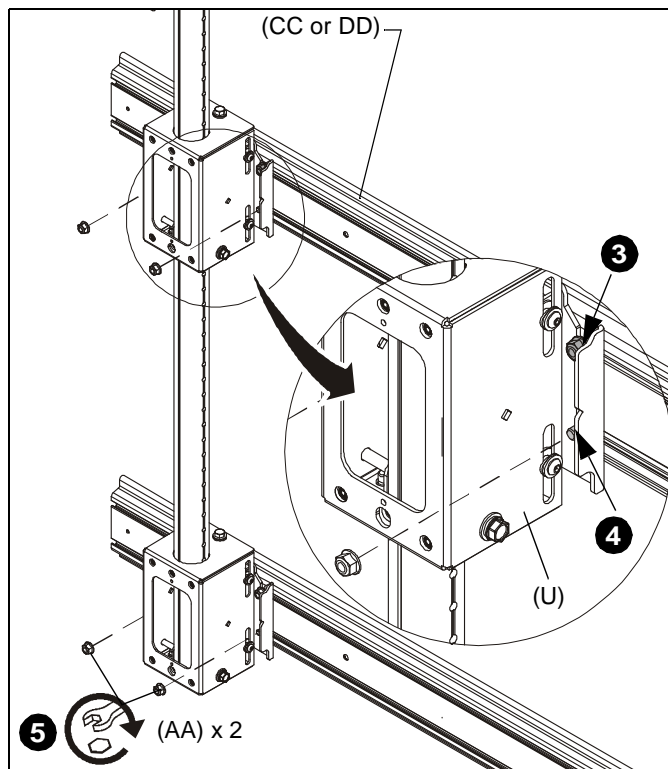

Figure 11
- Partially fasten one 5/16" lock nut (AA) to each stud on **upper** T-slot nuts.
3. Slide top T-slot nuts (X) with attached lock nuts (AA) down into top openings on array head (U). (See Figure 11)
4. Slide studs on lower T-slot nuts (X) into lower slots on array head (U) while bringing mounting rail against array head (U).
5. Tighten array head to mounting rail by tightening lock nuts on upper T-slot nuts and adding two 5/16" lock nuts (AA) to lower T-slot nuts. (See Figure 11)